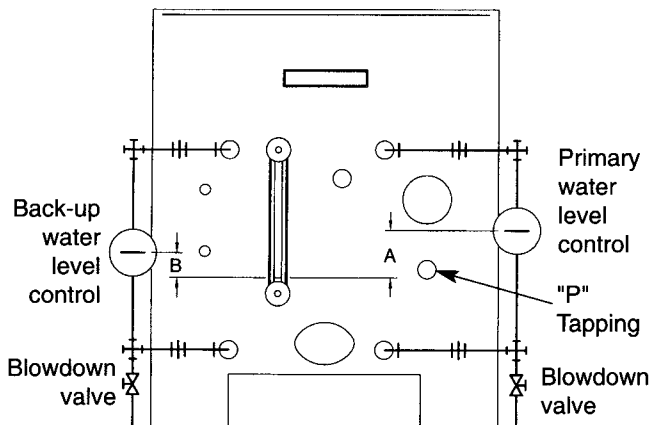

Figure 24 Water Level Control Location
2. If water level control is not shown in Figure 24, locate cast-on-body mark on control and install per manufacturer's instructions.
- c. Install water level controls and gauge glass as shown in Figure 24.